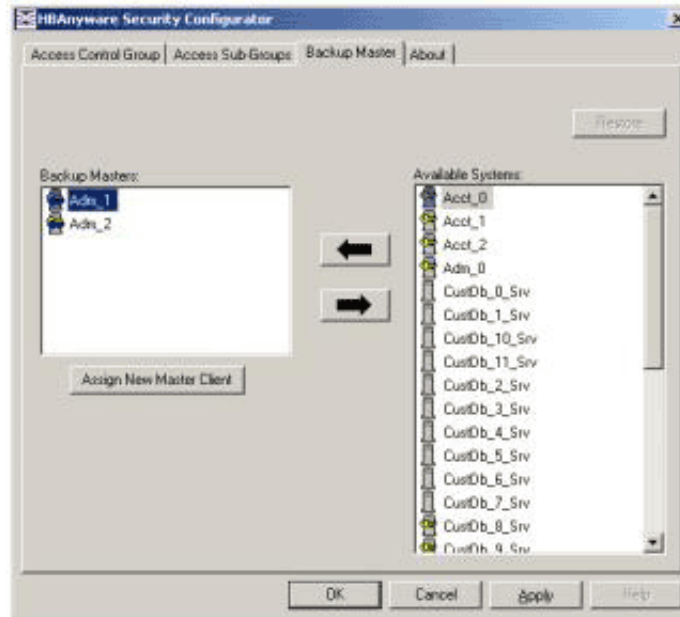

Figure 84: Backup Master tab with Backup Masters
2. Click the **Backup Master** tab (see Figure 84). In the Backup Masters list, select the Backup Master system that you want to reassign as the MSC.